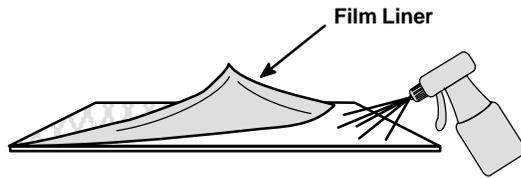

Figure 1. Lift Corner; Spray Solution
- Lift one corner of the liner while spraying the solution onto the exposed adhesive. See Figure 1.